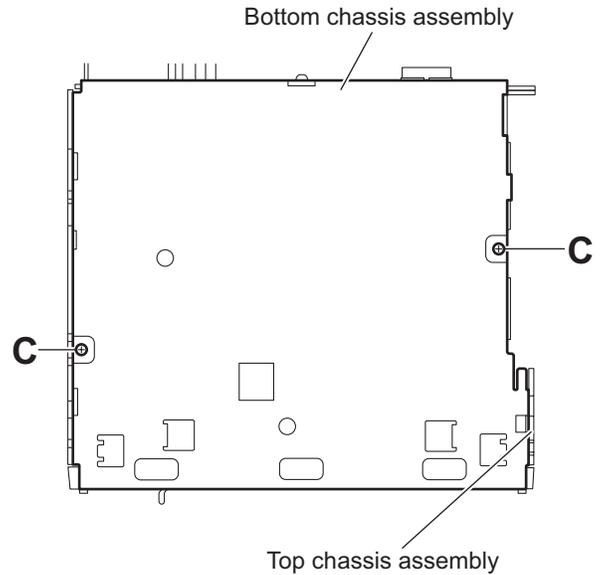

Fig.3
3.1.3 Removing the top chassis assembly (See Figs.3 to 6)
- (1) From the bottom side of the main body, remove the two screws **C** attaching the top chassis assembly to the bottom chassis assembly. (See Fig.3)